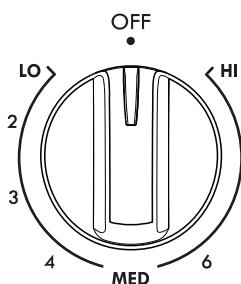

Figure 11: Single radiant element
2. Push in and turn the surface control knob in either direction to the desired setting (See Figure 11).